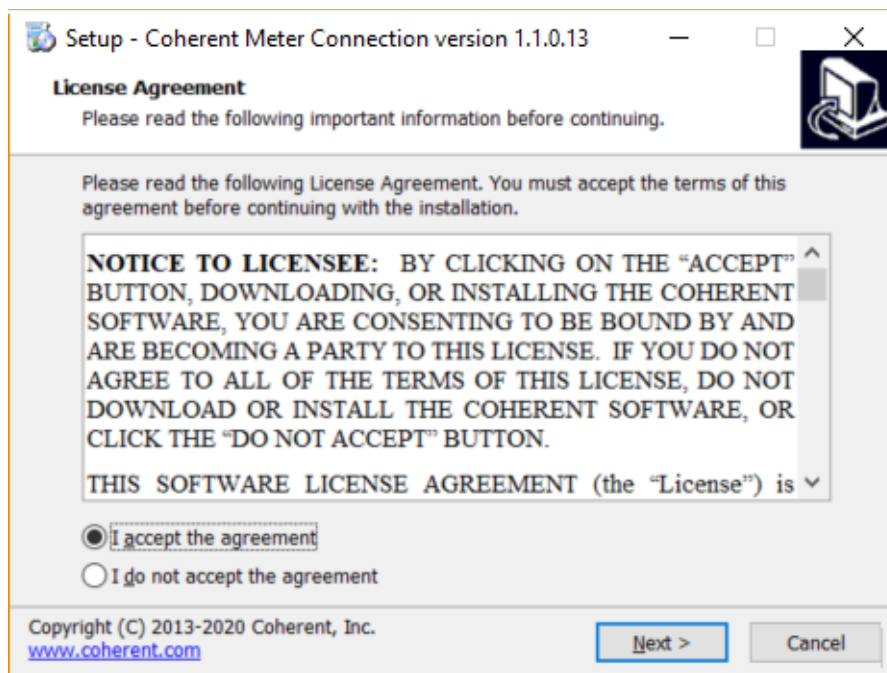

Figure 3-3. License Agreement
3. Read the instructions, and then click Next. The general License Agreement for the software, shown in Figure 3-3, displays.